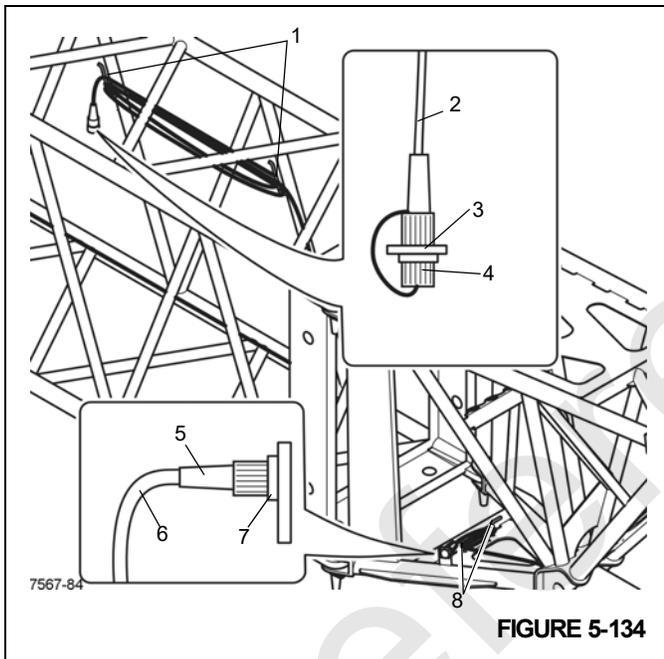

FIGURE 5-134
1. Remove the bridging plug (5), (Figure 5-134) from the socket (3), (Figure 5-134) and plug it into the dummy socket (7), (Figure 5-134).
2. Wind the cable (6), (Figure 5-134) on to the holder (8), (Figure 5-134).
3. Install the protective cap on the socket (3), (Figure 5-134).
4. Wind the cable (2), (Figure 5-134) onto the holder (1), (Figure 5-134).